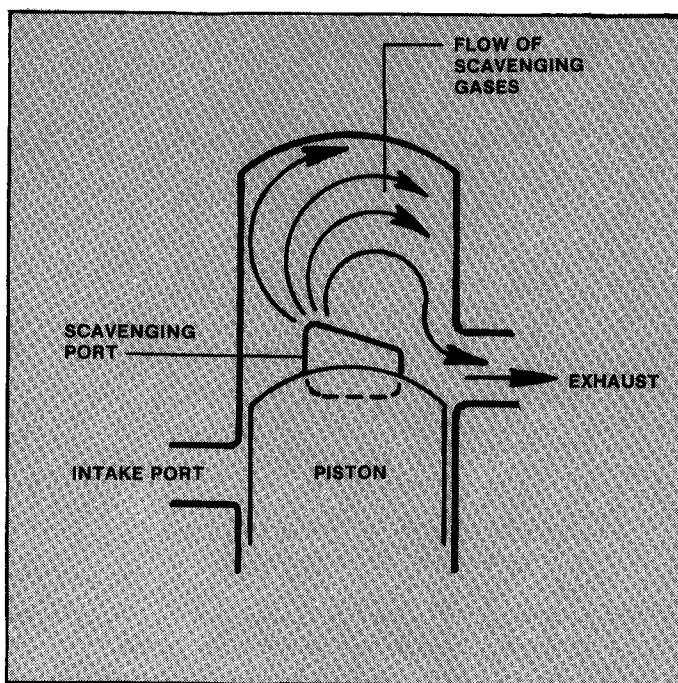

FIGURE 2.11
B. The operative relationship between intake, scavenging and exhaust ports is shown below. Figure 2.11.